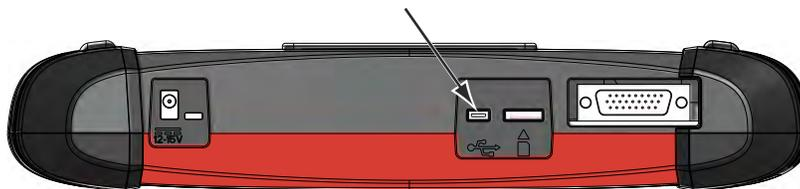

Figure 2-10 Sample SOLUS Ultra USB port location
- SOLUS Ultra—mini A USB port on top of the unit (Figure 2-10).